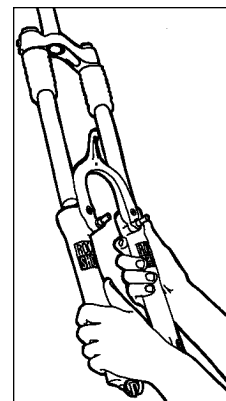

Fig. 6
4. Slide off one-piece lower tube assembly (see Fig. 6). Remove fork boots.